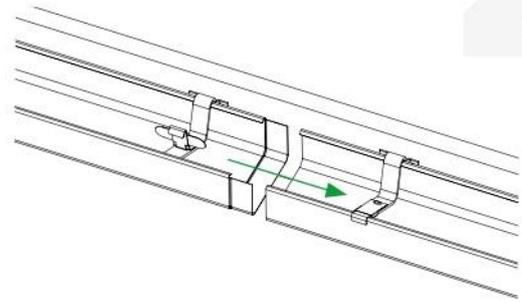

Figure 16
- h) Insert the second gutter into the brackets and slide its stamped tip into the first gutter (Fig. 16).